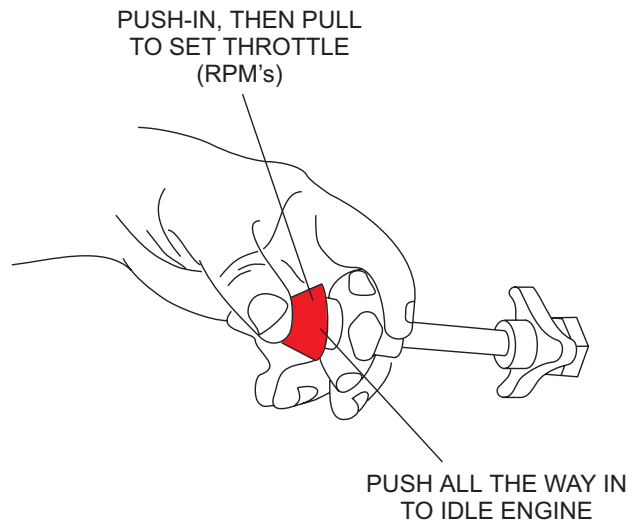

Figure 27. Throttle Control Knob (RPM Adjust)
- Push the outermost button, Figure 27 (coarse adjustment) inward, then pull outward until engine RPM reaches desired speed.